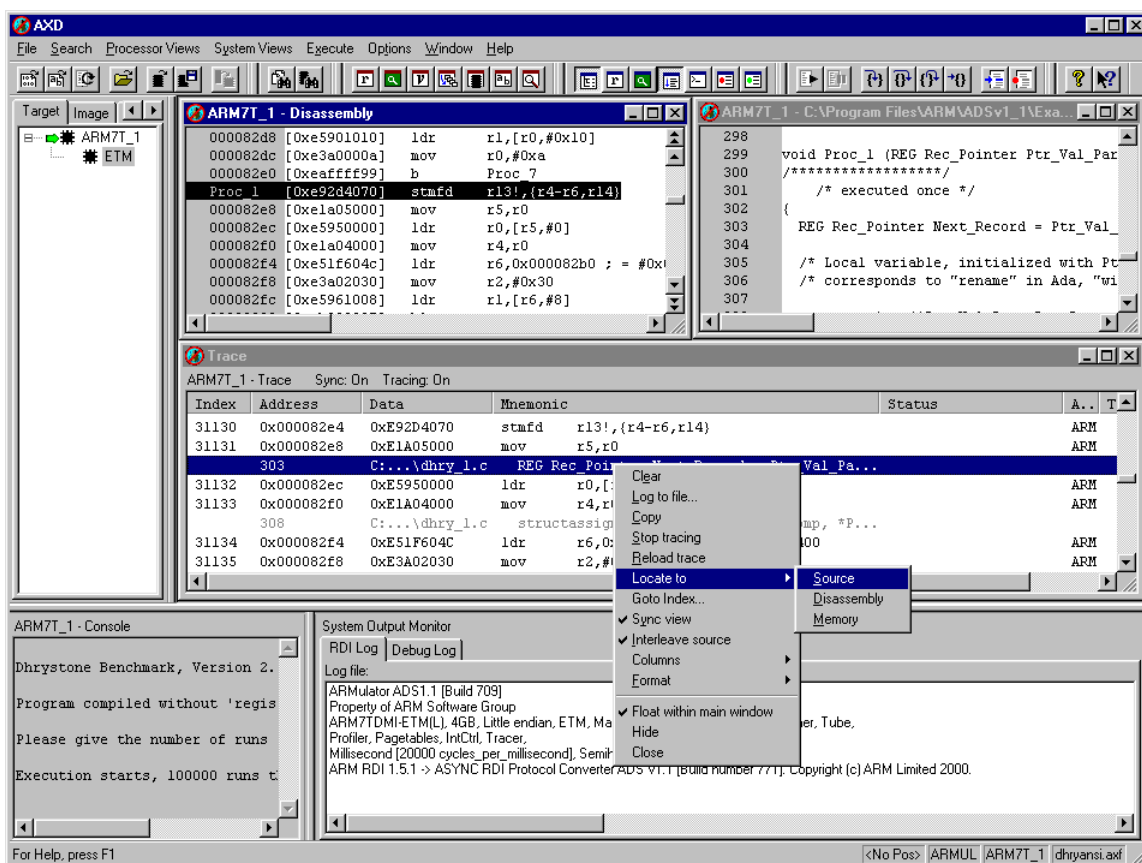

Figure 3-8 Synchronizing trace with source
Figure 3-8 shows the Trace window from a run of Dhrystone, with the context menu showing **Locate to → Source** on line 303, and the source file dhry_2.c centred on line 303.
In Figure 3-8 on page 3-17 there is a Trace window, a disassembly window, and a source window. If you:
1. Right-click on the instruction to locate. The context menu appears, as shown at the bottom of Figure 3-8 on page 3-17.